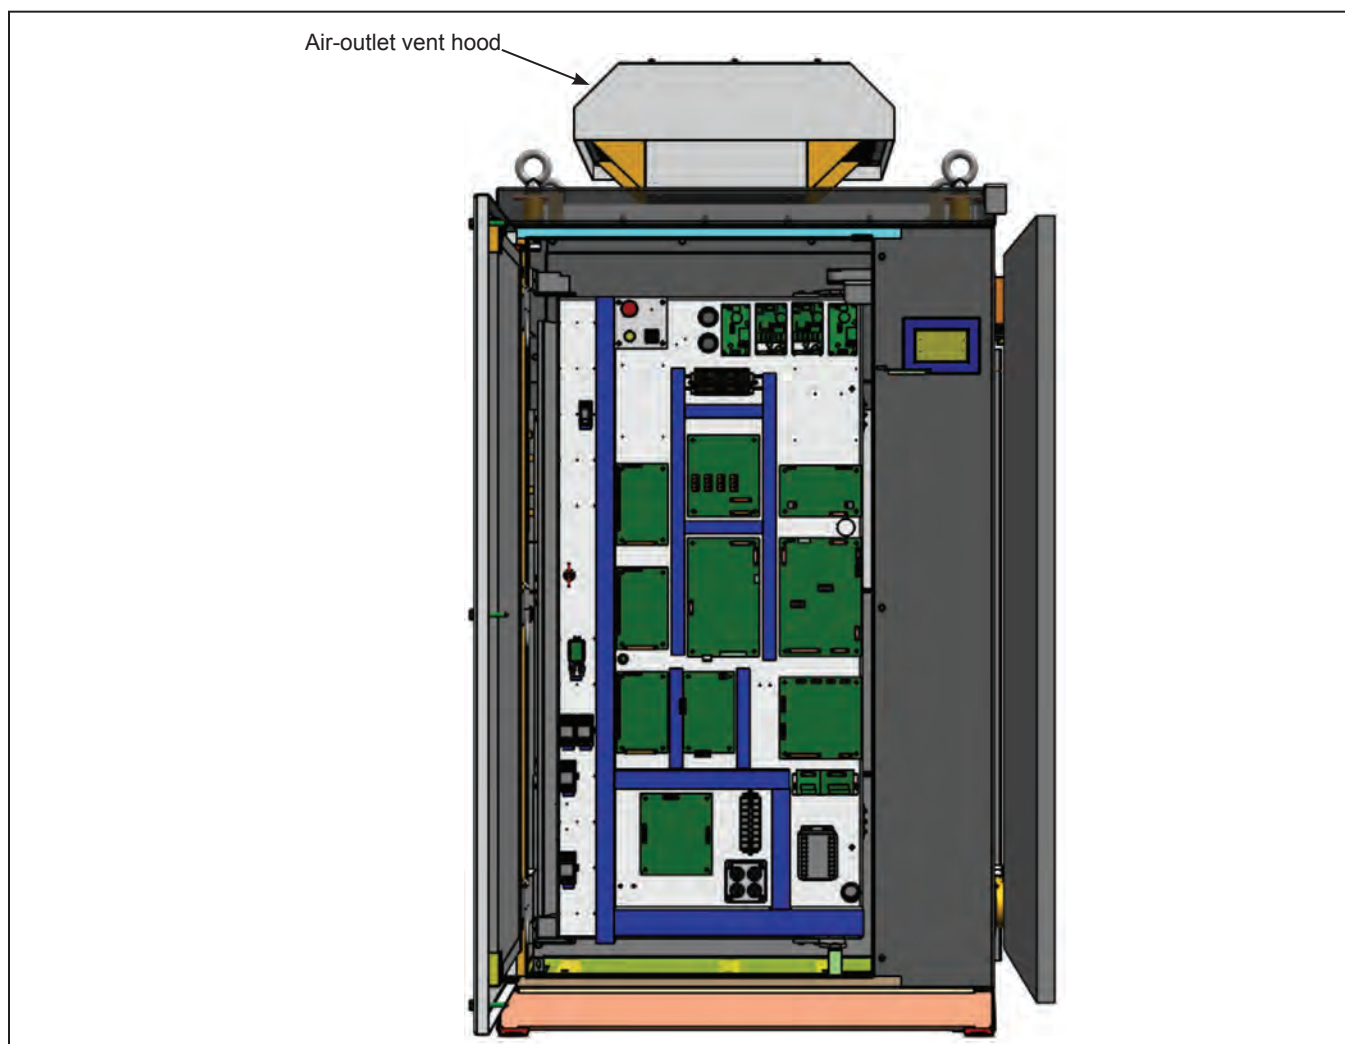

Figure 25. Location of the air-outlet vent hood on top of the control bay.
- ☐ Inspect the air-outlet vent hood at the top of the control bay. Clean any debris or obstructions that can restrict air flow going out of the PureWave UPS System. See Figure 25 for the location of the air-outlet vent hood.